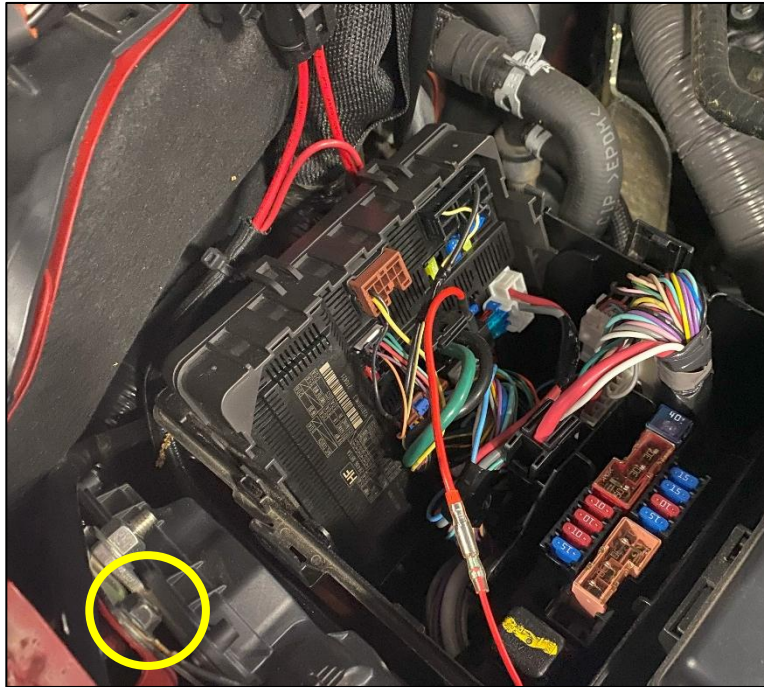

Figure 11
16. Remove a body bolt near the Fuse Box and attach the ground wire from the wiring harness. Reinstall the bolt to secure the ground wire. *Figure 11.*